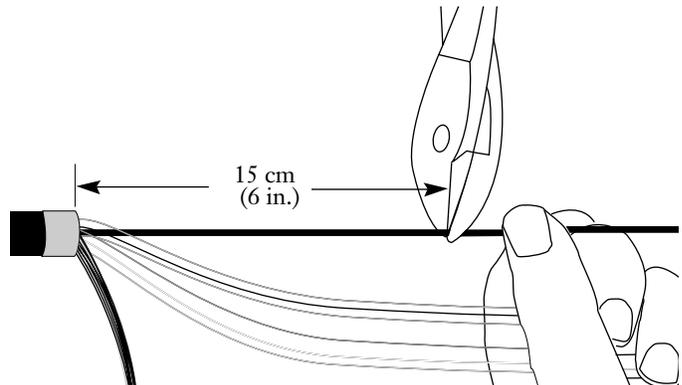

Figure 17
5.18 Use side cutters to cut the dielectric central member to a length of 15 cm (6 in.) (Figure 17).